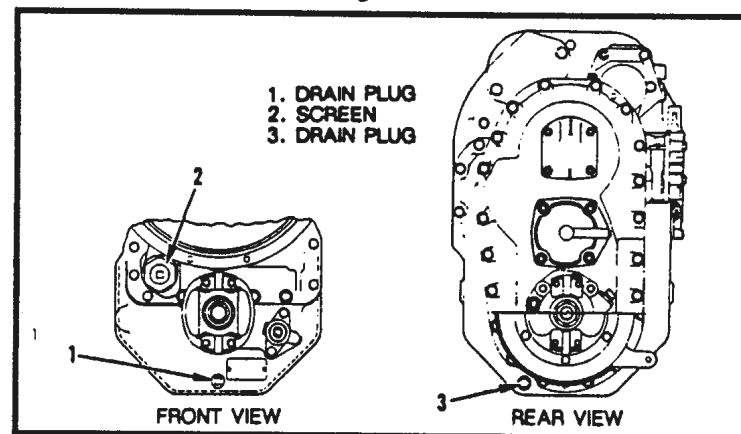

Figure 12-1. Powershift Transmission Drain Plugs and Sump Screen
1. There are two magnetic drain plugs, one on each end of the powershift transmission case. Remove the drain plugs and drain the transmission oil. Clean the magnetic drain plugs. Refer to Figure 12-1.
2. Use a square drive to remove the sump screen from the powershift transmission case under the torque converter. Refer to Figure 12-1. Clean the sump screen. Install the sump screen with new gaskets.